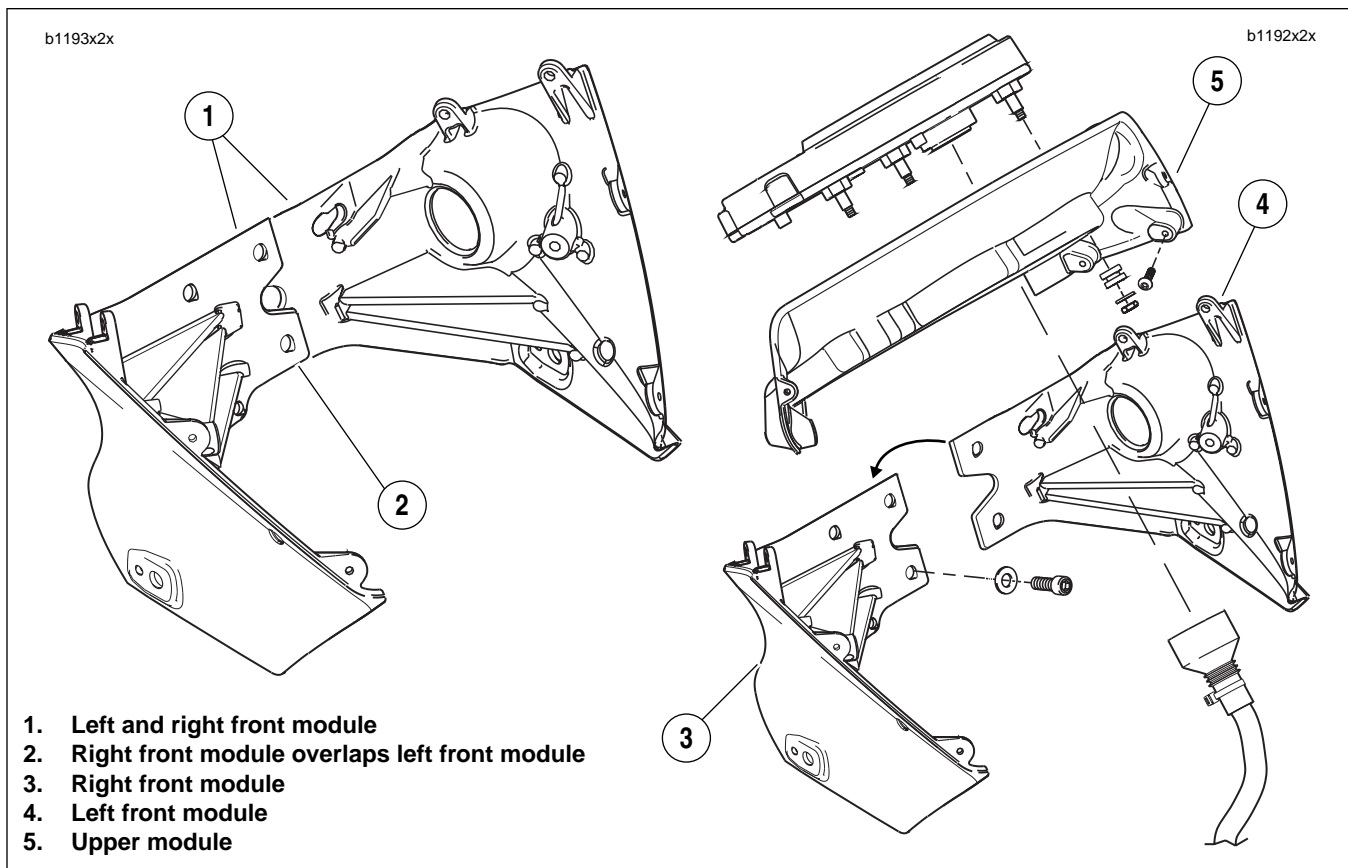

Figure 2-112. Front Module
6. See Figure 2-112. Remove upper module (5) fasteners and remove upper module.
See Figure 2-112. Once the clamp load has been released on the final fastener securing the right front module to the upper triple clamp, the left front module can be removed.
11. See Figure 2-112. Remove the left front module.
7. See Figure 2-112. Install upper module (5). Tighten fasteners to 36-60 in-lbs (4.1-6.8 Nm).